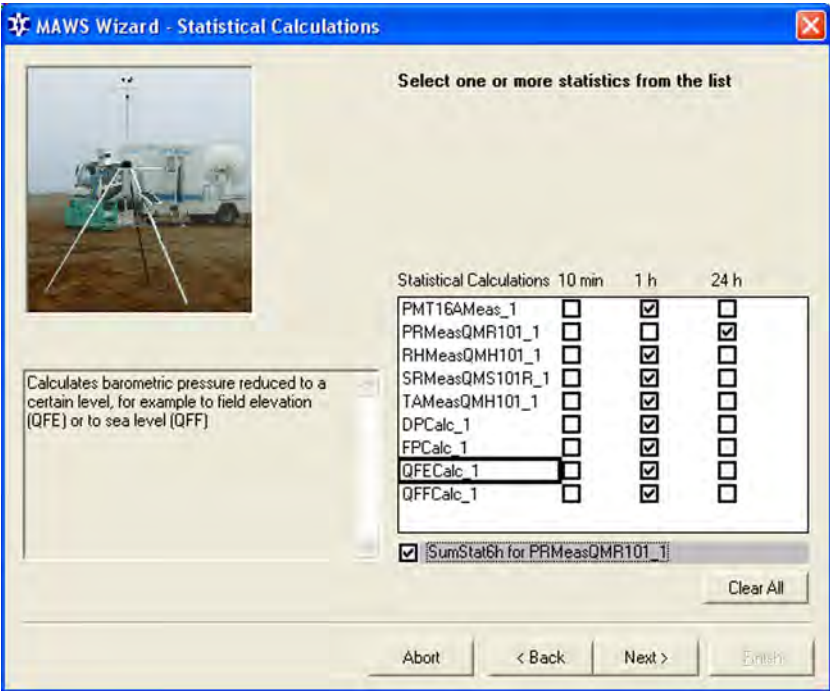

Figure 17 **Selecting Statistical Calculations**
7. In the **Statistical Calculations** view presented in Figure 17 on page 39, you can select the statistical calculations you want for your setup. You can select 10-minute, 1-hour, and 24-hour calculations. After selecting the necessary calculations, click **Next**.